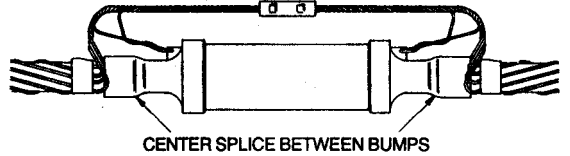

Figure 3
4. Slide splice body into final position over connector, using bumps formed on splice ends as guides for centering (Figure 3).
C. Grounding Splice (Figure 3)